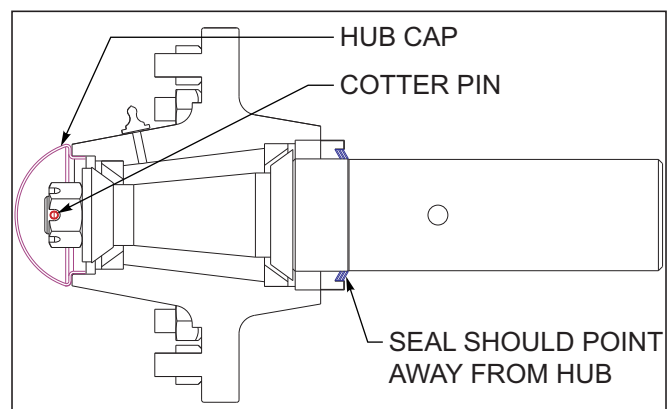

Figure 4-14: Triple Lip-Seal
The triple-lip seals should point away from the hub to keep contaminants out and allow grease to pass See Figures 4-14.
11. Install a new cotter pin and replace the hub cap. See Figures 4-14.